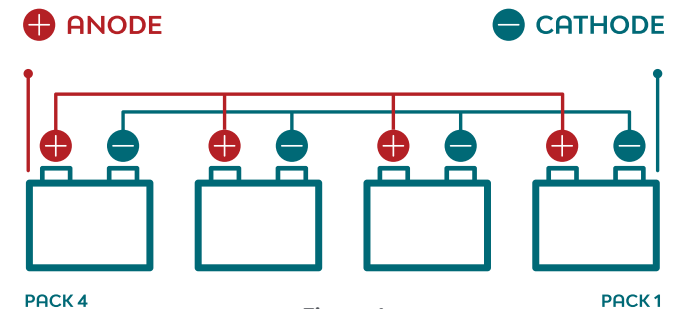

Figure 1
3. Connect the batteries using cables of sufficient width to carry current required (6 gauge <50A/10 gauge <100A) as per **Figure 1**